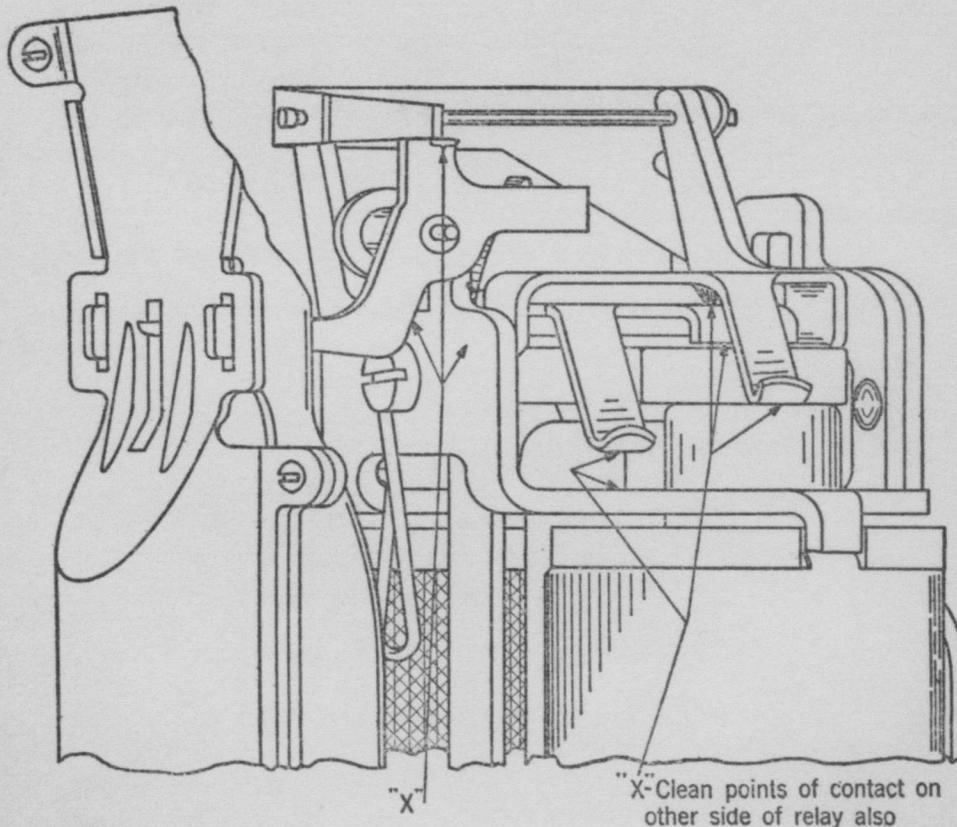

Fig. 11
5.02 The various points on the coin relay marked "X" in Fig. 11 shall be cleaned as follows: